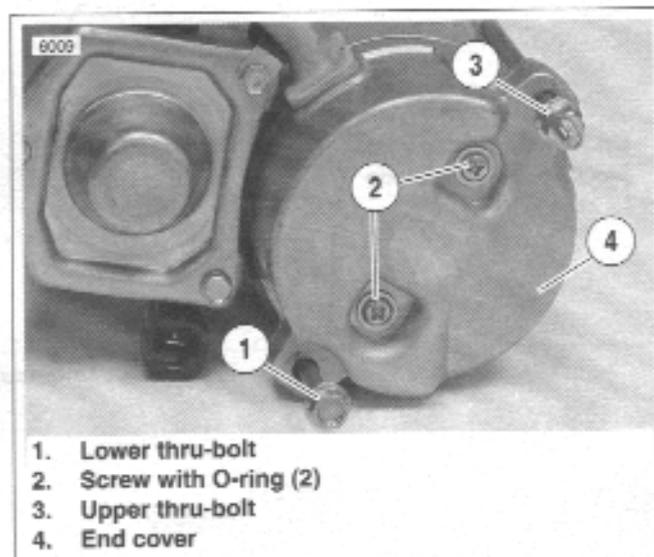
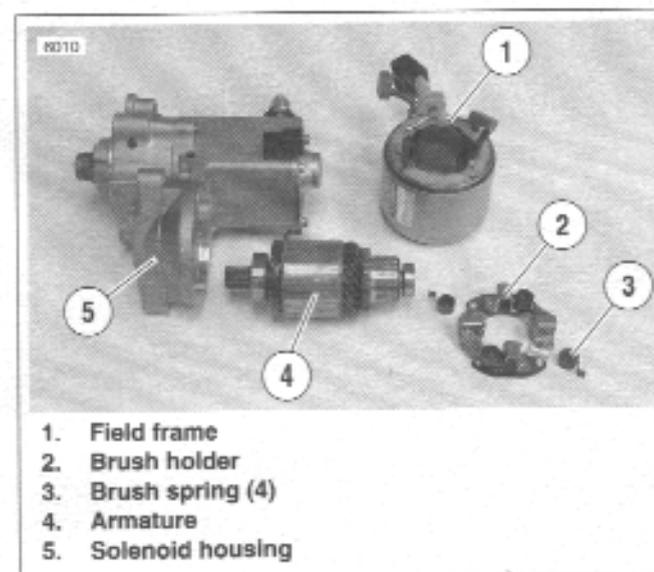

Figure 5-15. Removing the Thru-Bolts
Figure 5-16. Starter Components
2. See Figure 5-15. Remove both thru-bolts (1, 3).
3. Remove both end cover screws with O-rings (2) and end cover (4).
4. See Figure 5-16. Use a wire hook to pull upward on brush springs (3), and lift brushes out of holder (2). Remove brush holder.